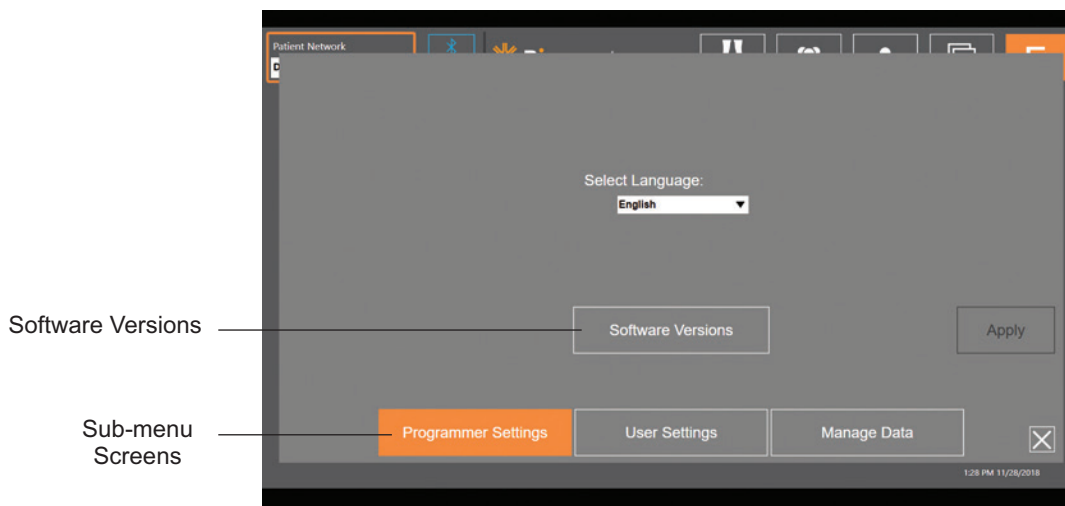
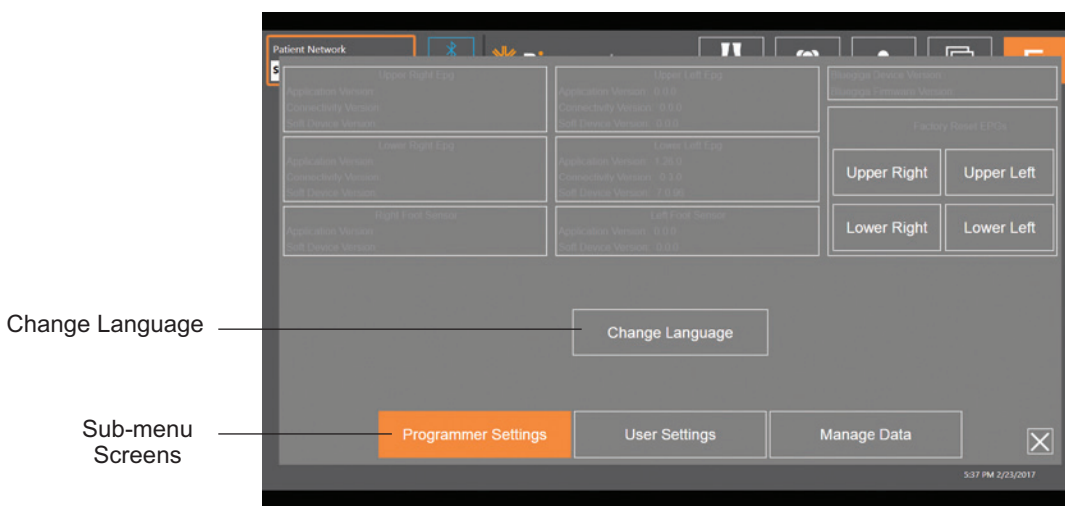

Figure 7-13: Application Settings Screen - Change Languages
Figure 7-14: Application Settings Screen - Software Versions
The Application Settings screen, accessed via the icon available on each screen on the right lower corner of the screen, is used to adjust language settings, manage user profiles, and manage data. The Application Settings Screen consists of three sub-menu s. See Figure 7-13.
- Programmer Settings: used to select a language setting, display software versions, and factory reset the EPGs. Press the Software Versions or Change Language button to toggle between the two available screens. See Figure 7-13 and Figure 7-14.
3. Click on Application Settings  and select Software Version to view the factory reset options. See Figure 7-13.